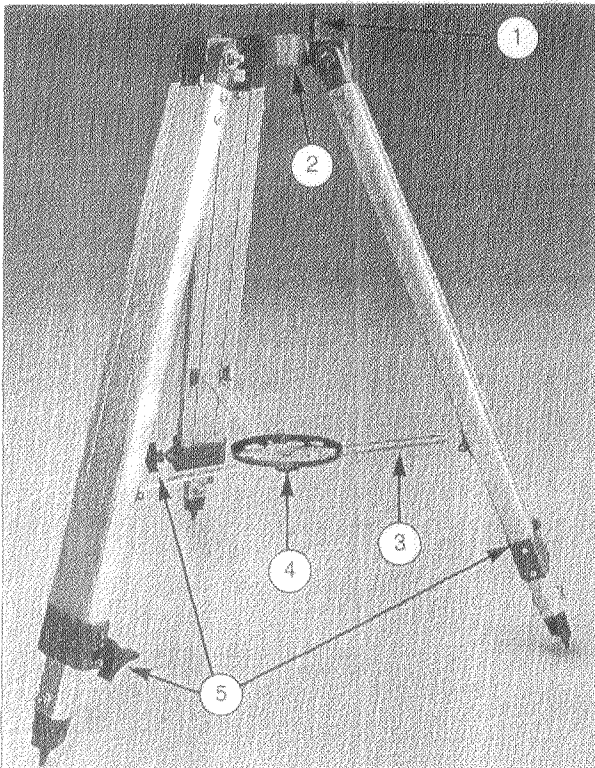

Fig. 2: LX D 500 Tripod. (1) Azimuth Tangent Arm; (2) Tripod Head; (3) Extension Strut; (4) Accessory Tray; (5) Height Adjustment Knob.
The LX D 500 Tripod (Fig. 2) is shipped virtually completely assembled from the factory. Once set up, all that is required of an observer is to attach the accessory tray and adjust the tripod to the desired observing height.
Remove the tripod from the shipping box and stand the tripod vertically with the tripod feet down. Grasp two of the tripod legs and with the full weight of the tripod on the third leg, gently pull the legs apart to the fully open position (Fig. 2).
Remove the round accessory tray (4), Fig. 2, from the shipping box.
Loosen the black, star-shaped height adjustment knob (5), Fig. 2, at the base of each tripod leg.
Firmly tighten (but do not overtighten) the three height adjustment knobs (5), Fig. 2.
Remove the accessory tray (4), Fig. 2. Grasp the tripod head (2), Fig. 2, with one hand. With the other hand, pull directly up on the central hub of the extension strut, where the accessory tray (4), Fig. 2, was attached. This action will cause the tripod legs to move inward to a collapsed position.